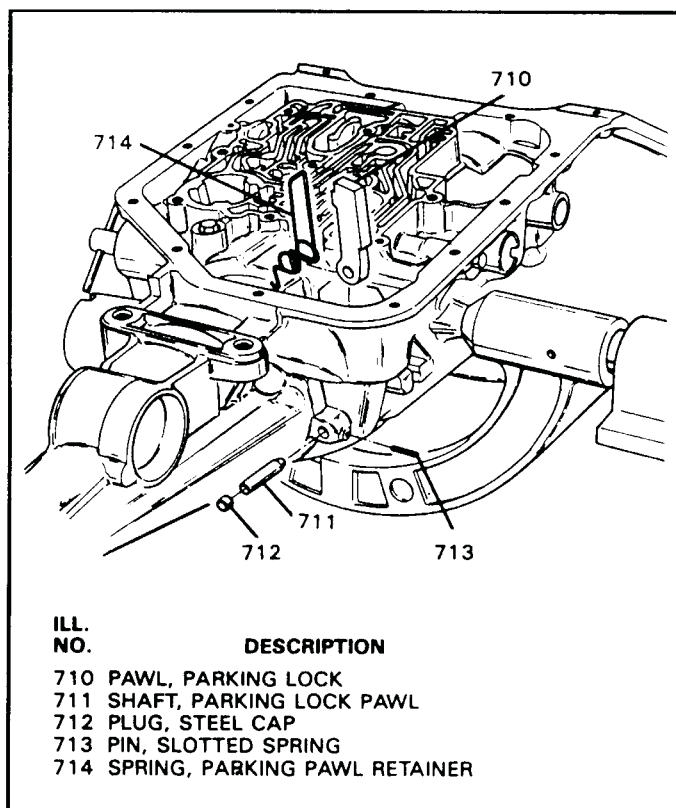

Figure 64
13. Use Figure 64 to reinstall parking pawl and the return spring if it was removed.